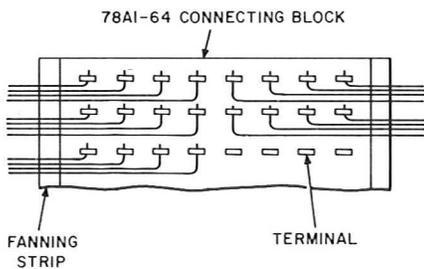

Fig. 10—The Dress of Jumpers on Single-Clip Connecting Blocks
3.08 Dress the wire into the slot in the fanning strip on the side of block nearest the clip connections. All wires are to be dressed into the fanning strip, etc, before seating them. See Fig. 10 and 11.